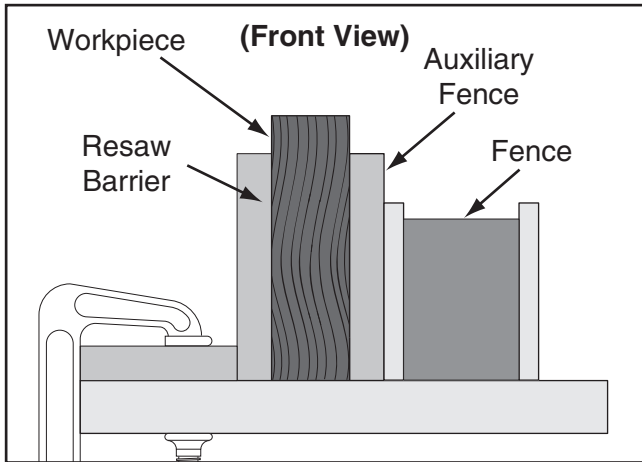

Figure 69. Ideal resaw workpiece setup.
5. Place the workpiece against the auxiliary fence and slide the resaw barrier against the workpiece, as shown in **Figure 69**. Now clamp the resaw barrier to the top of the table saw at both ends.